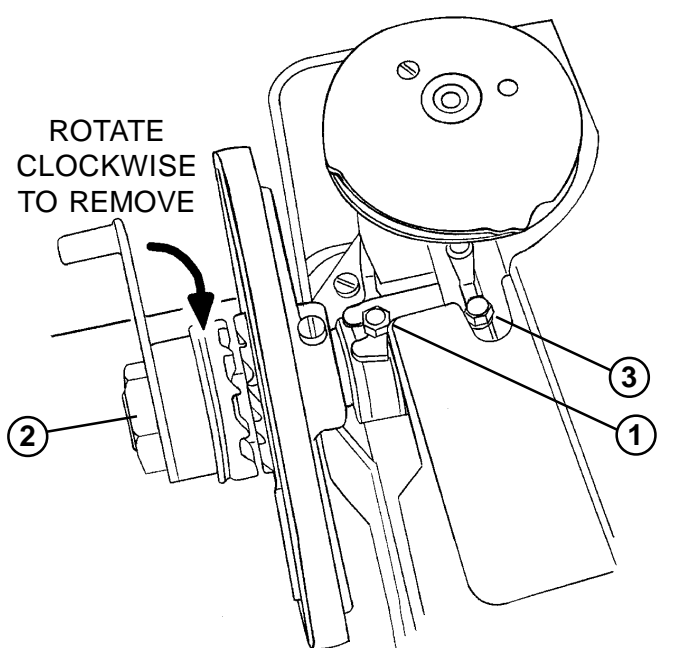
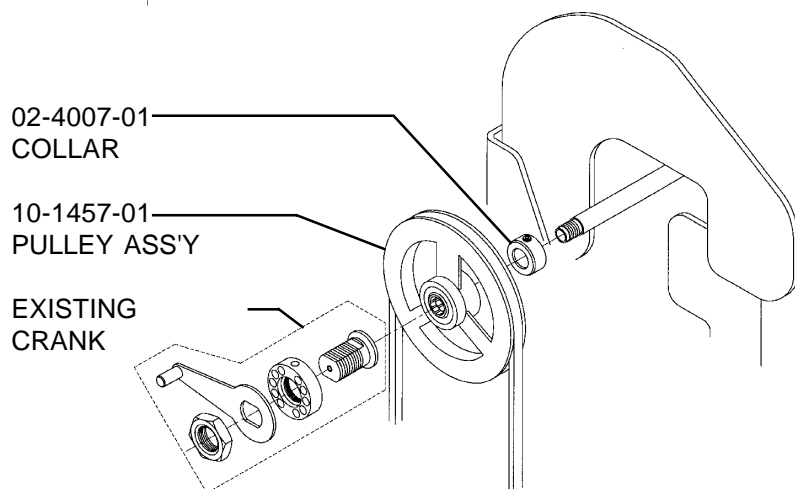

FIG. 2-1
FIG. 2-2
A. To install the drive pulley assembly. Remove the manual crank mechanism by rotating the crank in the clockwise direction (See Fig. 2-1). Remove the pulley carrier assembly by loosening the hex nut which attaches it to the reversing lever (Fig. 2-1, Item 1) and sliding the entire assembly off the end of the cross shaft. Remove the large hex nut which holds the manual crank onto the crank hub (Fig. 2-1, Item 2). Remove all parts from the crank hub. Loosen hex head screw (Fig. 2-1, Item 3) and slide it toward the operator as far as it will travel in it's adjusting slot. Place collar (02-4007-01) and pulley assembly (10-1457-01) on the end of the cross shaft (See Fig. 2-2).
NOTE: The pulley assembly contains a locking bearing, insure that the bearing locks and drives the shaft in the counterclockwise direction and free-wheels in the clockwise direction. Replace the crank hub, spring holding device, manual crank and retaining nut (Fig. 2-2).